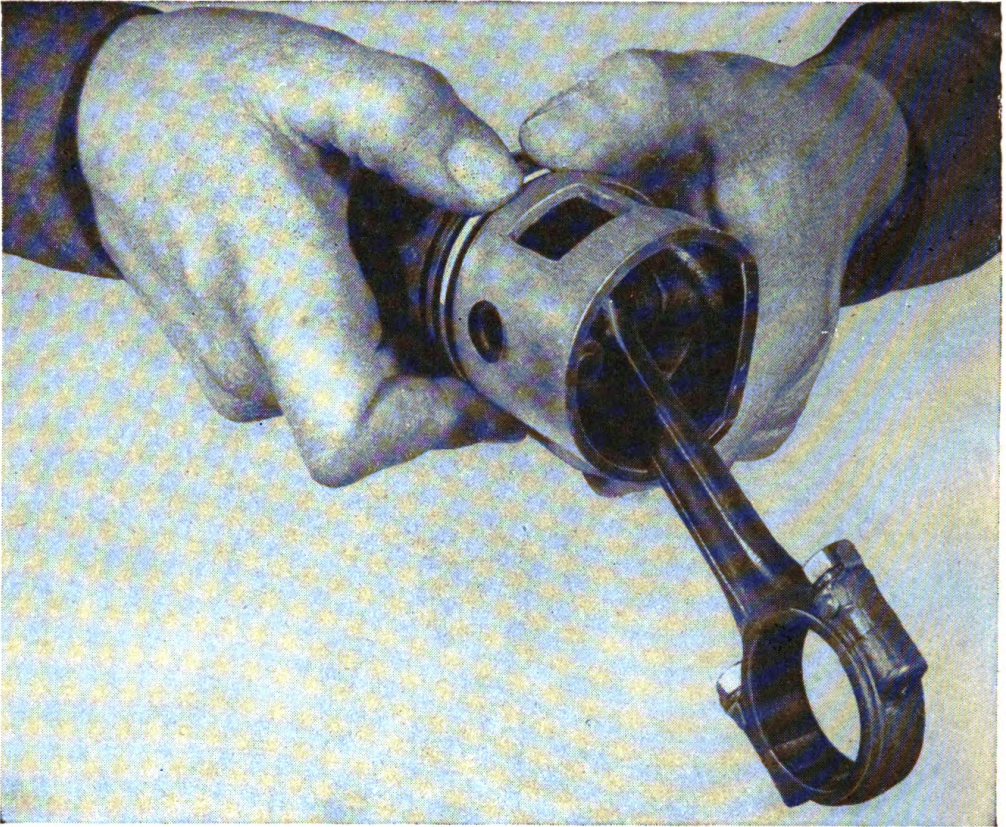
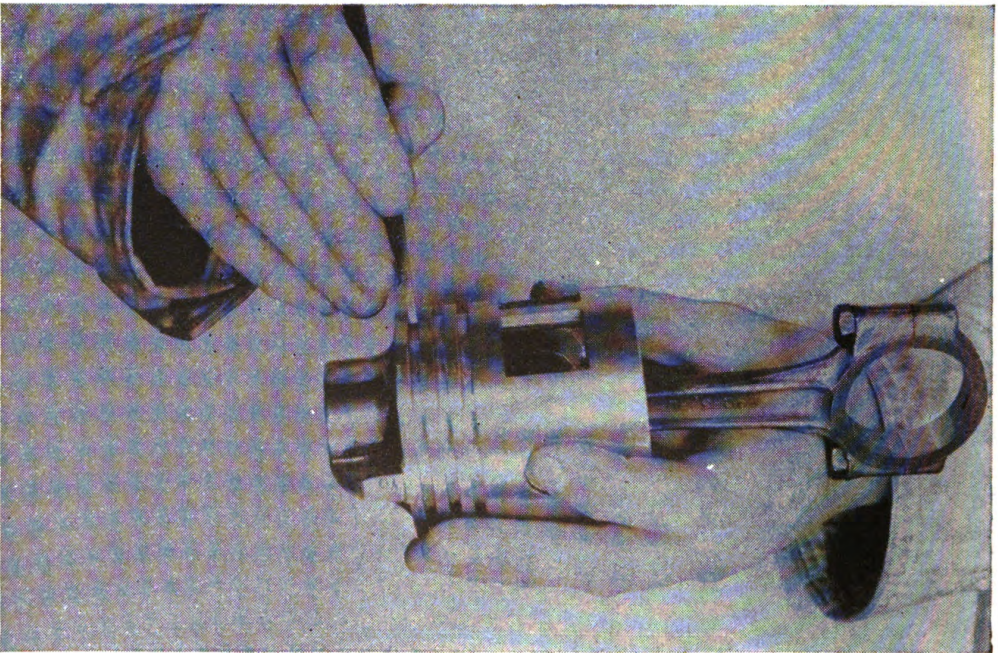

Figure 102. Expanding piston rings to remove them from piston grooves.
Figure 103. Scraping carbon from piston grooves.
f. TO REMOVE PISTON RINGS FROM PISTON. (1) Expand rings by spreading with thumbs as illustrated in figure 102, and slide over end of piston. There are three rings for each piston. Be careful to spread only far enough to permit slipping off piston, as rings can be broken.
(2) Rings are placed in reverse order. Spread enough by hand to slide over piston and into position in respective ring grooves.
(3) After long periods of operation the piston-ring grooves frequently become clogged with carbon which requires removal to prevent rings from sticking. This condition results in loss of compression and lack of power.
(4) It is simple to remove carbon from ring grooves by scraping, as shown in figure 103. A suitable scraper can be made easily from a discarded file or hacksaw blade. Make it slightly narrower than ring